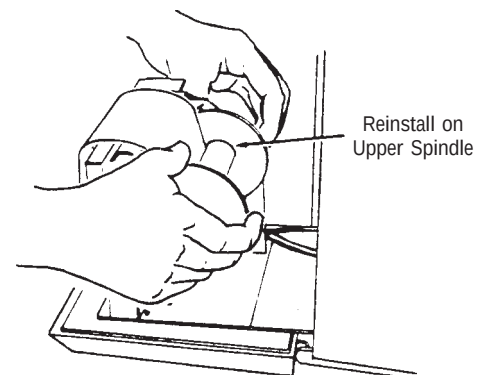

**Figure 5-19**
8. Reinstall take-up reel onto the upper spindle (Figure 5-19).